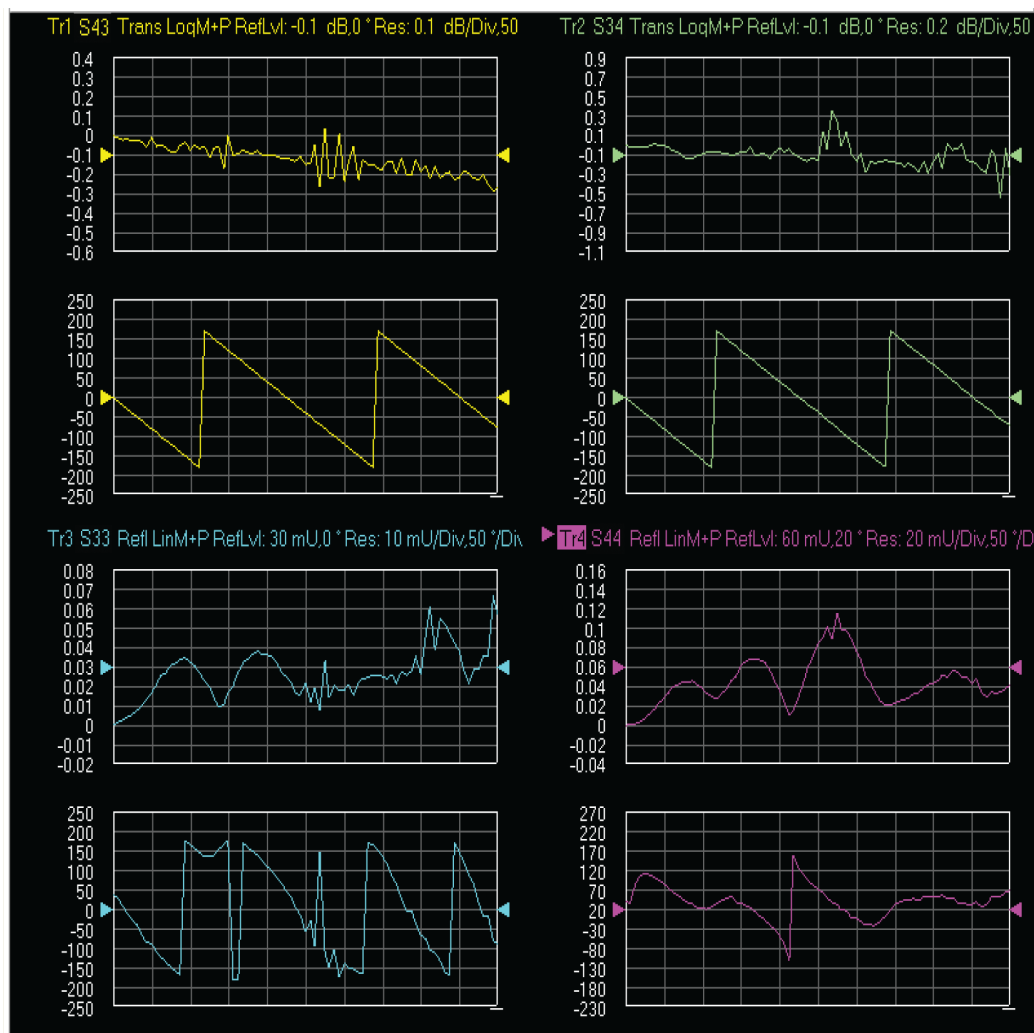

Figure 3-73. MS4640A/B Series VNA, Typical Matched Thru Data in Low Band
8. When the test completes, the next action depends on what the user selected in the Main Menu tab. The VNA main display should be similar to the one in Figure 3-73. This is a typical display immediately after measuring the Matched Thru in the Low Band. Please note this is for reference only and that the actual data on the VNA display may not be identical